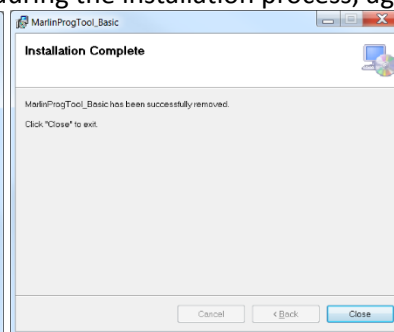

Figure 4.c
1. Check the 'Remove MarlinProgTool' radio button (fig. 4.a) and click on 'Finish' button. Wait for 'Installation Complete' window. Click on 'Close' button to complete the uninstallation (fig. 4.c).